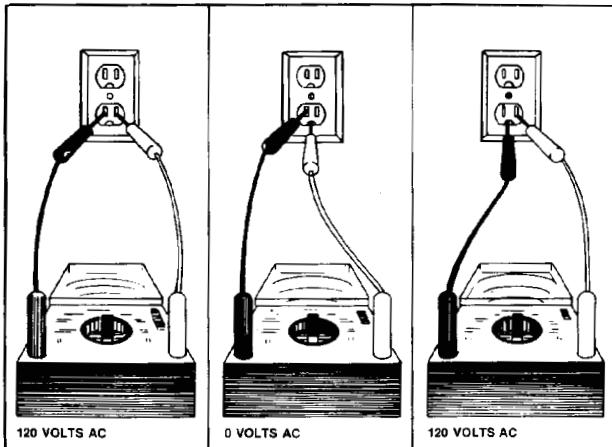

Figure 1-6
It is the responsibility of the person installing the appliance to ensure it is adequately grounded and polarized at the point of installation. Local conditions and requirements should be taken into consideration. In cases where only a two (2) prong receptacle is available, it is the personal responsibility of the customer to have it replaced with a properly grounded and polarized three (3) prong receptacle (Figure 1-6).